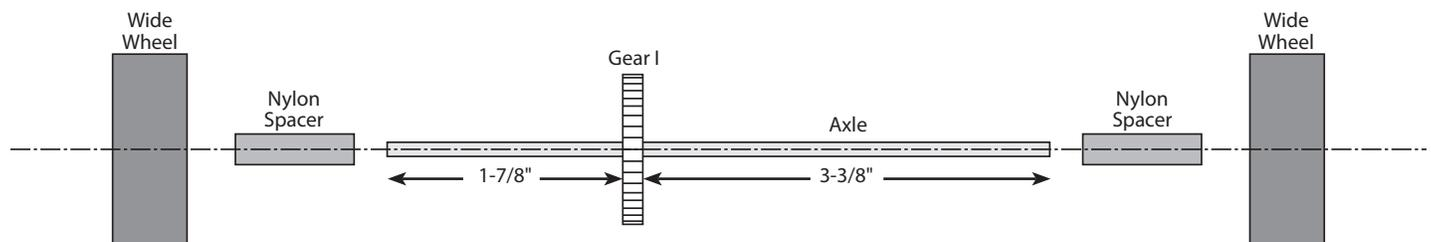

Figure 4
3. Place the gear on a table. Insert one of the axles into the gear. Slide the gear 1-7/8" from one end of the axle. It should be 3-3/8" from the other end of the axle (Figure 4).
4. Slide two nylon spacers onto the axle, one on each side of the gear (Figure 4).